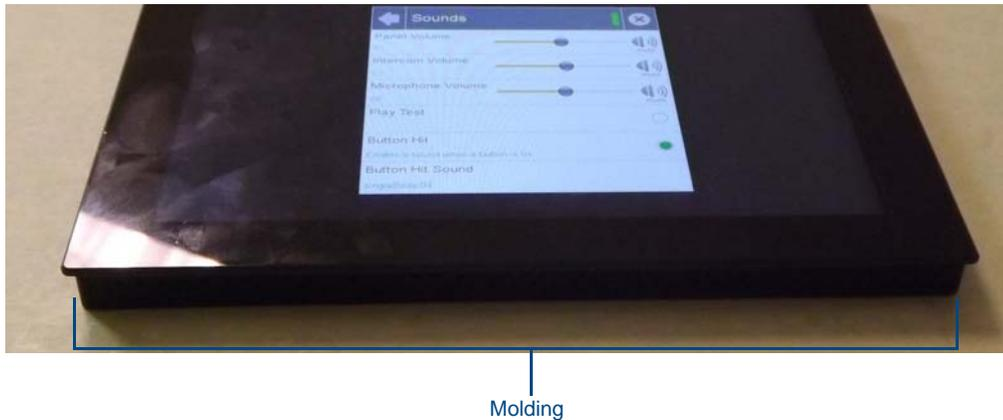

FIG. 19 Underside of MXD-701
The MXD-701 is held in place to the back box via latch hooks and clips on the back box (FIG. 19), securing it to the mounting surface. In certain circumstances, such as firmware updates or other maintenance that requires accessing the device's USB port, the device may need to be removed from the back box. The clips that lock down the MXD-701's bottom edge (Landscape) or right edge (Portrait) may be unlatched in order to remove the device from the mounting surface.
1. The bottom (Landscape) or right side (Portrait) of the MXD-701 has a series of ventilation holes along the molding (FIG. 19). From each end, count to the fifth holes on the center row.